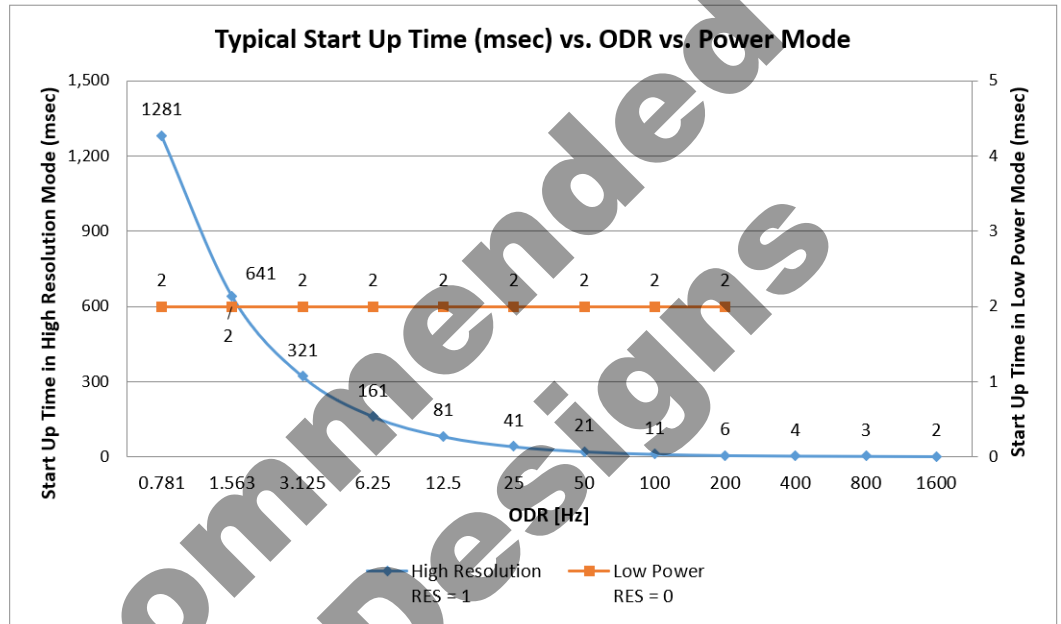

Figure 1: Typical Start Up Time
3. Start up time is from PC1 bit set to 1 in CTRL_REG1 register to valid outputs. Time varies with Output Data Rate (ODR) and power mode (RES bit setting in CTRL_REG1 register). See *Figure 1* for details.